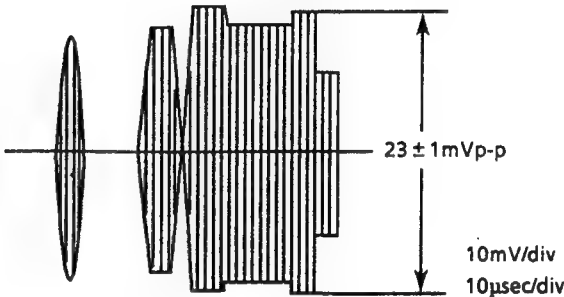

Figure 2-11.
- Adjust R320 (recording chroma control) so that the red level be  $23 \pm 1\text{mVp-p}$  as shown in Figure2-11.